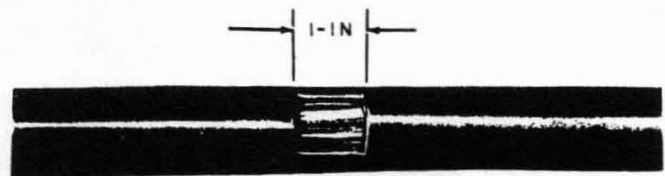

Fig. 21—1-Inch Opening Completed
- (3) Carefully remove the inner aluminum shield, taking care not to damage the conductors (Fig. 21).